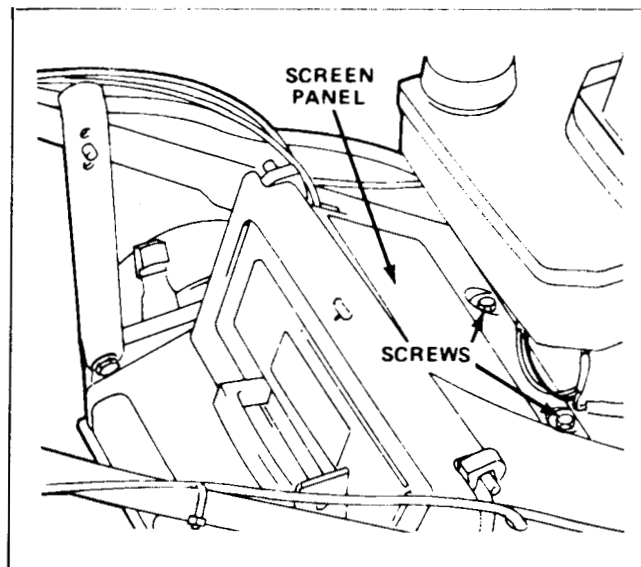

Figure 22
5. Remove the screen panel and access cover on the mower housing and clean around the gear box and blade brake mechanism on units so equipped. See Figures 22 and 23.
2. Remove the two screws securing the screen panel to the top of the mower housing as shown in Figure 22. Remove the panel.